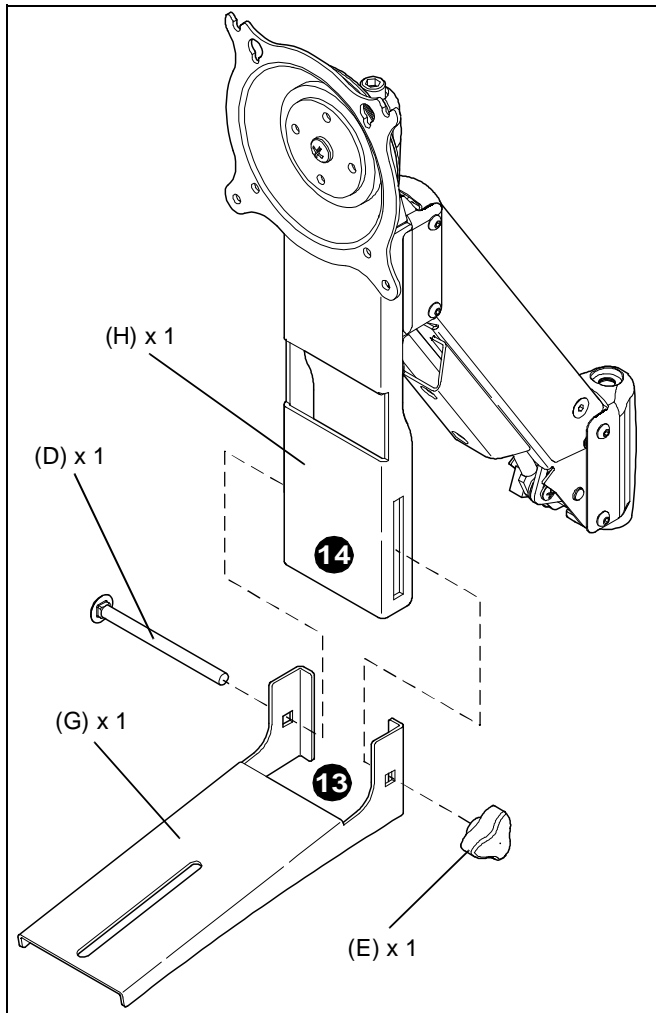

Figure 2
13. Orient horizontal tray mounting bracket (G) as shown in figure below. (See Figure 2)
14. Secure horizontal tray mounting bracket (G) to vertical tray mounting bracket (H) using one carriage bolt (D) and one knob (E). (See Figure 2)